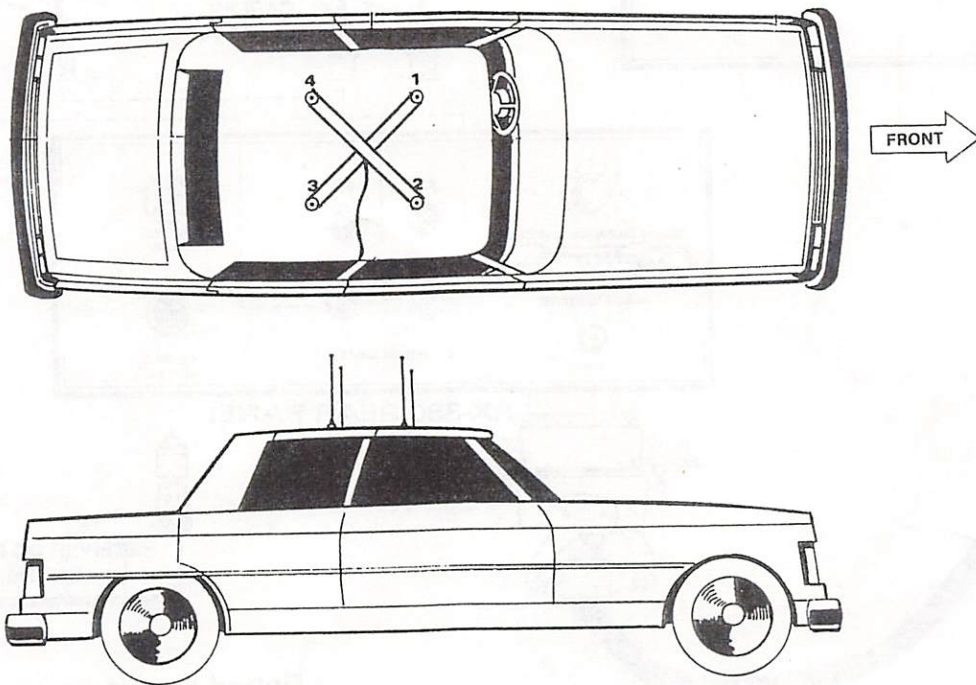

Figure 8. Antenna Placement.
1. Place the supplied Antenna System on the roof of the vehicle (illustrated below in Figure 8). Make sure that the arrow symbol on the antenna system points toward the front of the vehicle. **Antenna placement is critical to assure that the Bird Dog® performs accurately.**